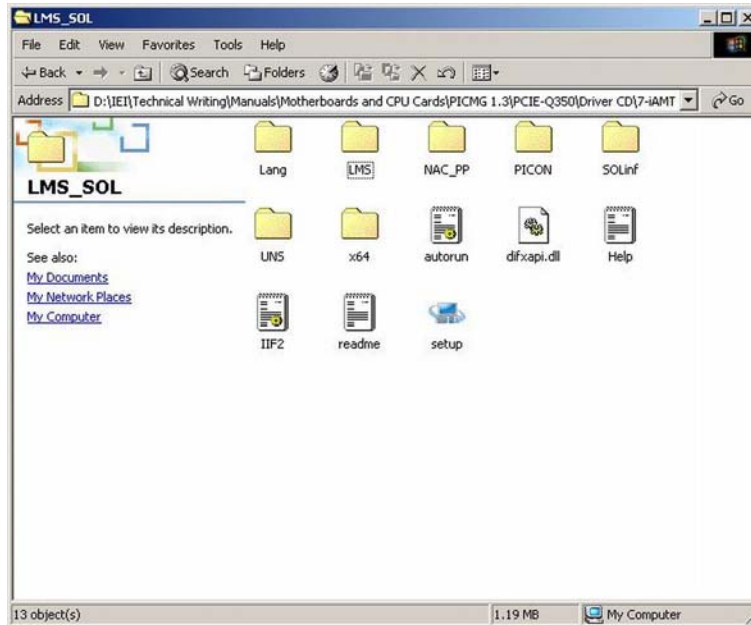

Figure 7-62: IAMT Driver Installation Icon
Step 3: Click on the LMS_SOL directory icon. The window in **Figure 7-62** appears.
Step 4: Double click the setup icon in **Figure 7-62**.